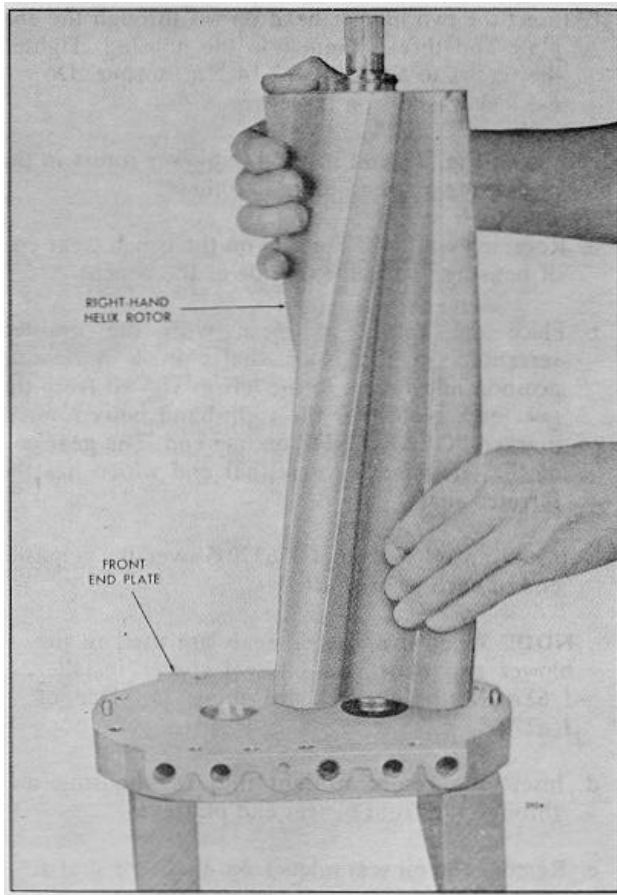

FIG. 18 - Installing Blower Rotor in Front End Plate
- d. Support the front end plate on two wood blocks approximately 4" high, with the inner face of the end plate facing up and the TOP side of the plate facing the serviceman's right (Fig. 18).
- g. With the omitted serration in the splines of the shaft facing toward the top side of the end plate, start the end of the rotor shaft into the right-hand shaft opening in the end plate so that the gap portion of the seal ring is started into the ring collar (Fig. 18). Continue to lower the rotor and very carefully apply pressure to the seal ring approximately 180 ° from the gap while gently working the seal ring into the collar until the rotor contacts the end plate.